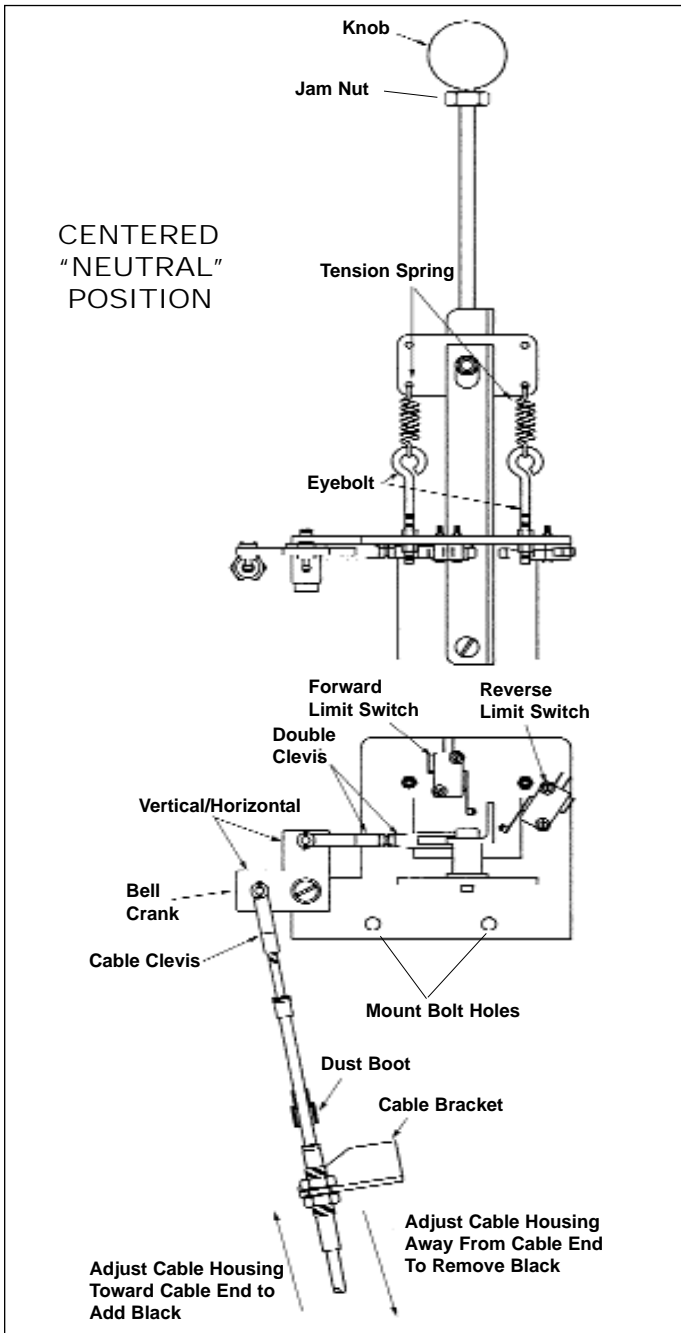

Figure 3 - Console Shifter Assembly
2. Loosen jam nut under shift lever knob. See Figure 3. Unscrew knob from shift arm.
4. Remove cotter pin, flat washer, and clevis pin securing shift cable clevis to shifter bell crank. See Figure 3.
1. Tension springs are used to create over-center action in console shifter assembly. To adjust console shifter tension springs, position shift lever in forward or reverse position. Loosen the two jam nuts securing one of the tension spring eye bolts. Adjust the length of one eye bolt so that light spring tension is felt. See Figure 3.
2. Micro switch adjustment should only be performed after the complete shift system has been adjusted. To adjust micro switches, select forward position. Locate forward micro switch and loosen mounting screws. Rotate switch so that switch lever is depressed completely by shift lever arm. See Figure 3. Snug mounting screws. Repeat process for reverse micro switch. Finally, shift vehicle to forward and rock vehicle back and forth.
1. At front of vehicle, remove cotter pin, washer, and clevis pin, securing shift cable clevis to console shifter assembly. See Figure 3. Loosen two jam nuts securing shift cable to floor board cable bracket.
1. Remove shift cable from console mounted shifter by removing cotter pin, washer, and clevis pin from shift cable clevis at console shifter bell crank. See Figure 3.
2. Manually position the rear transaxle shift lever into the neutral position. See Figure 3.